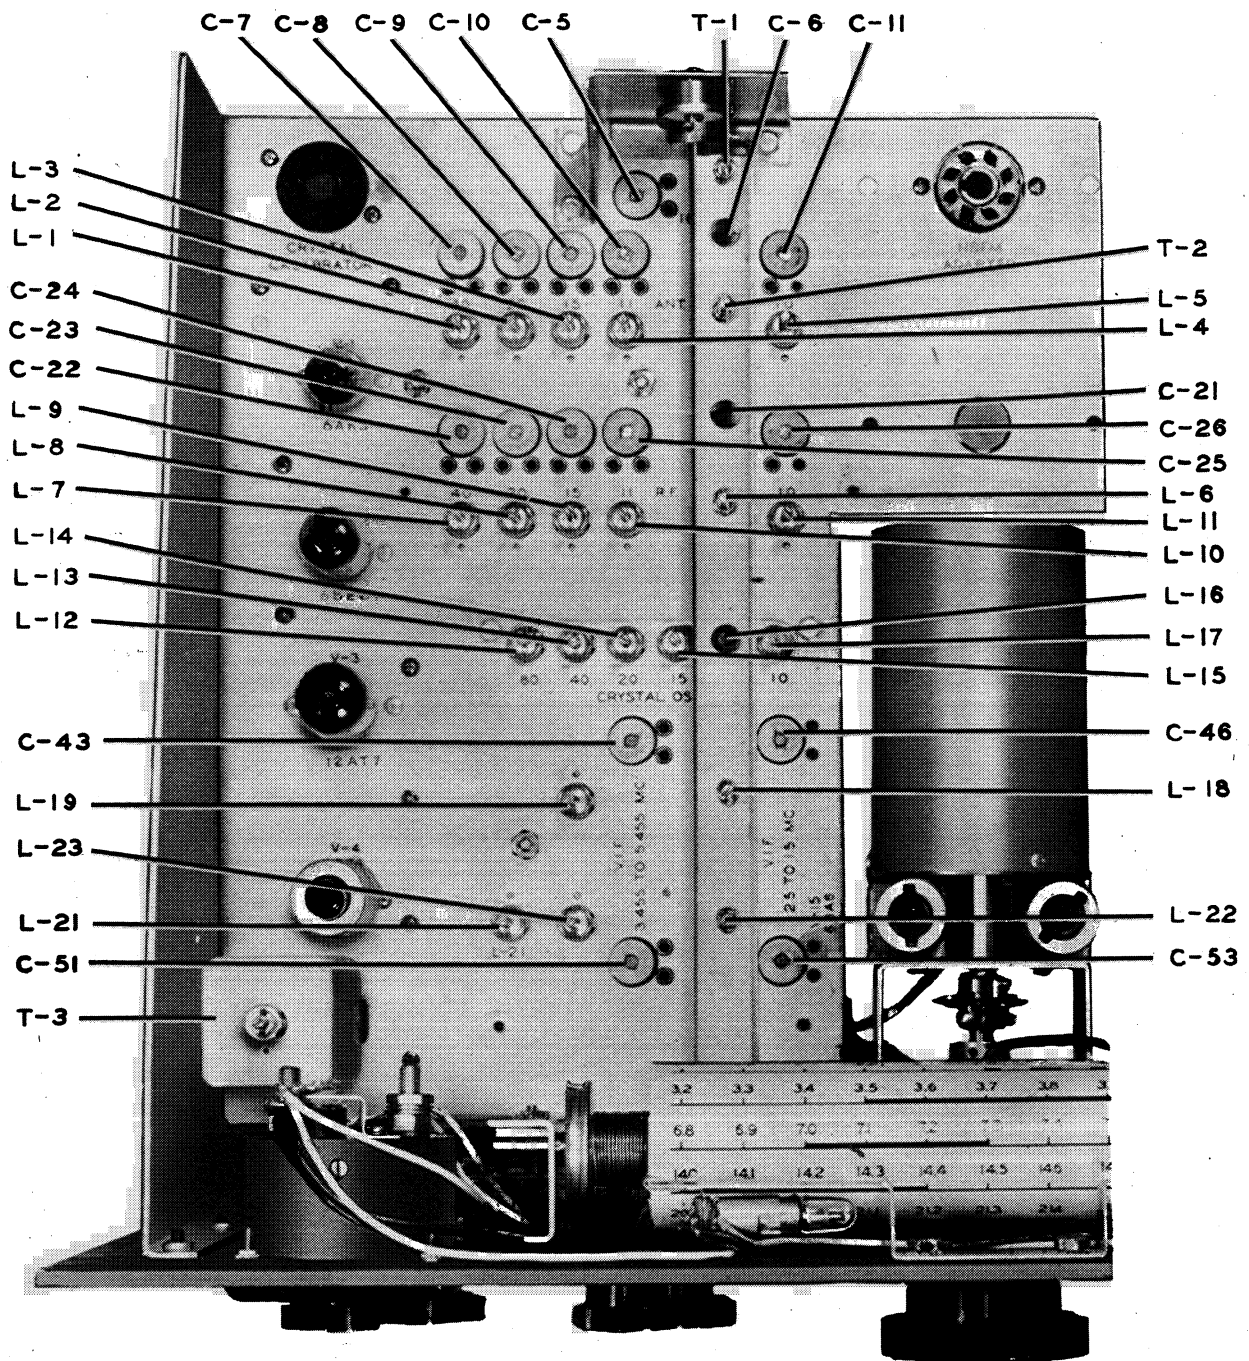

Figure 5-1 75A-2 Alignment Adjustments
b. ALIGNMENT PROCEDURE (slight misalignment). See figure 5-1.